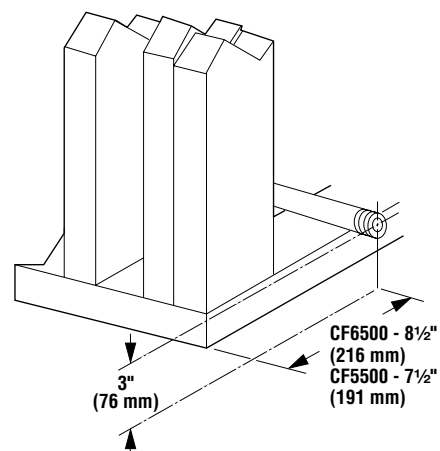

Figure 10
Step 2. Route a $\frac{1}{2}$ " (13 mm) gas line along the left or right side framing (see Figure 10).